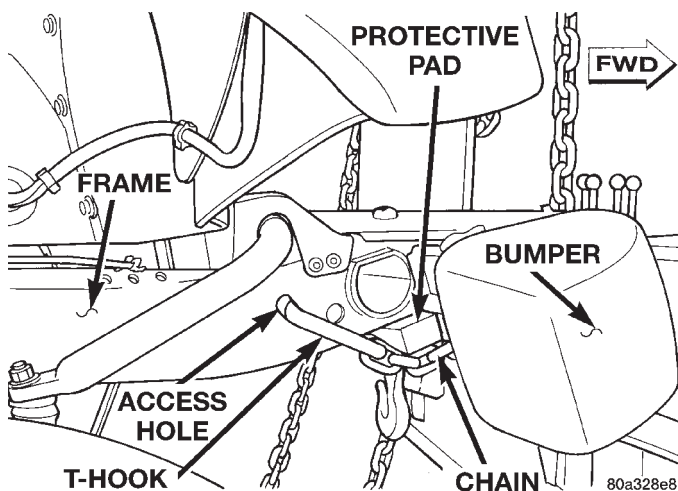
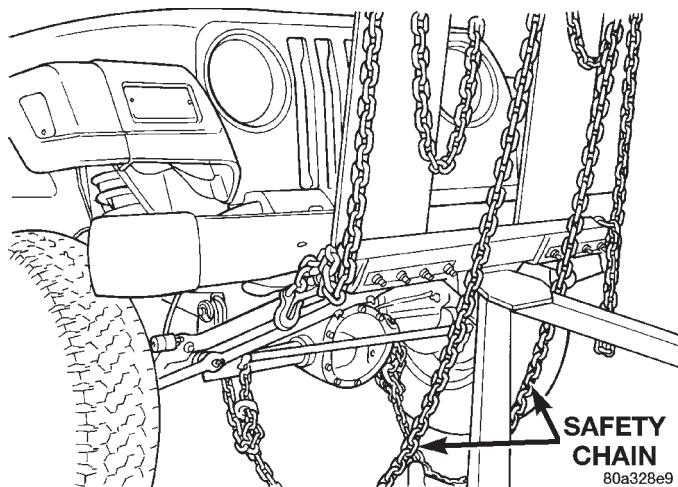

Fig. 4 T-Hook Attachment
Fig. 5 Safety Chain Attachment
- (1) Raise the rear of the vehicle off the ground and install tow dollies under rear wheels.
- (2) Attach T-hooks to the access holes on the out-board side of the frame rails (Fig. 4).
- (3) Before tightening the chain, position a protective pad between the chain and the bumper.
- (4) Attach the safety chains to the vehicle (Fig. 5).
- (5) Turn the ignition switch to the OFF position to unlock the steering wheel.